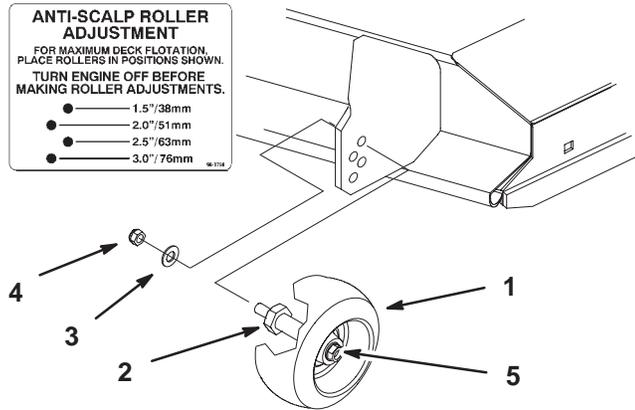

Figure 22
- After adjusting height-of-cut remove flange nut and spring disk while holding stud with wrench (Fig. 22).
Note: Do not remove the wheel nut and washer (Fig. 22).
- Select hole so gage wheel is positioned to the nearest corresponding height-of-cut desired (Fig. 22).
- Reinstall the flange nut and spring disk. Torque to 40–45 ft–lbs. (54–61 N•m) (Fig. 22).